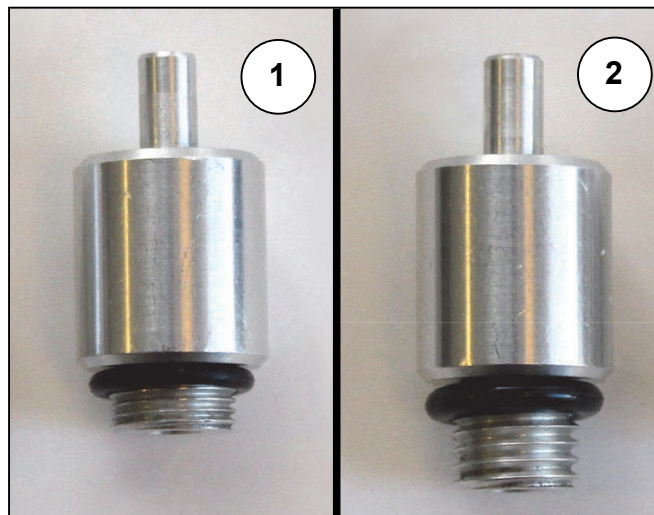
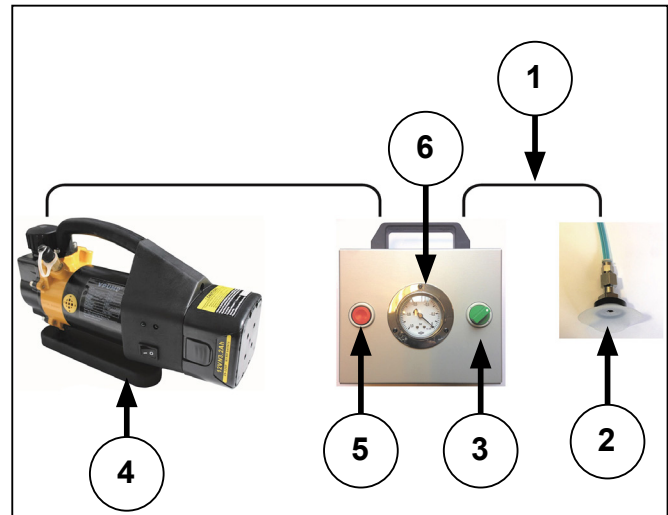

Figure 3: Pump adaptors
Figure 6: Checking for leaks
20. Remove the pump adaptor (figure 3) and immediately mount the pressure relief valve (figure 6) to prevent water droplets from entering the product.